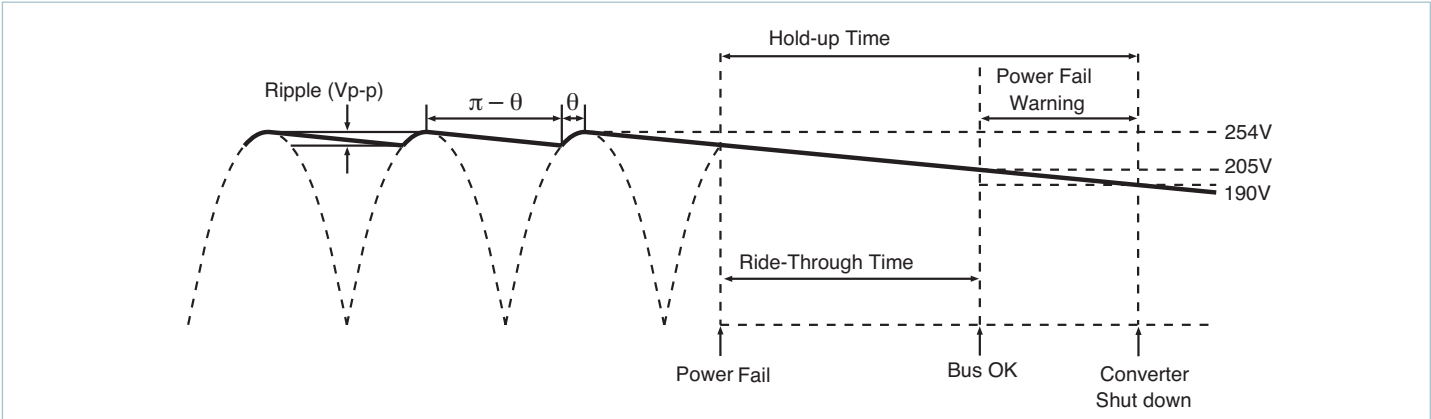

Figure 13 — Hold-up time
**Hold-up Capacitors:** Hold-up capacitor values should be determined according to output bus voltage ripple, power fail hold-up time, and ride-through time (See Figure 13). Many applications require the power supply to maintain output regulation during a momentary power failure of specified duration, i.e., the converters must hold-up or ride-through such an event while maintaining undisturbed output voltage regulation. Similarly, many of these same systems require notification of an impending power failure in order to allow time to perform an orderly shut down.
The power fail warning time ( $\Delta t$ ) is defined as the interval between B OK and converter shut down (EN) as illustrated in Fig. 13. The Bus-OK and Enable thresholds are 205V and 190V, respectively. A simplified relationship between power fail warning time, operating power, and bus capacitance is obtained by inserting these constants:
For example, a converter whose output is 15V and nominal input is 300V will provide approximately 56dB ripple rejection, i.e., 10Vp-p of input ripple will produce 15mVp-p of output ripple (See Figure 17). Equation 3 is again used to determine the required capacitance. In this case, V1 and V2 are the instantaneous values of bus voltage at the peaks and valleys (See Figure 13) of the ripple, respectively. The capacitors must hold-up the bus voltage for the time interval ( $\Delta t$ ) between peaks of the rectified line as given by: